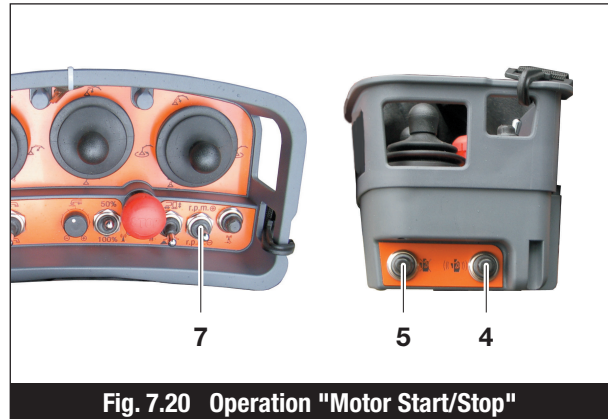
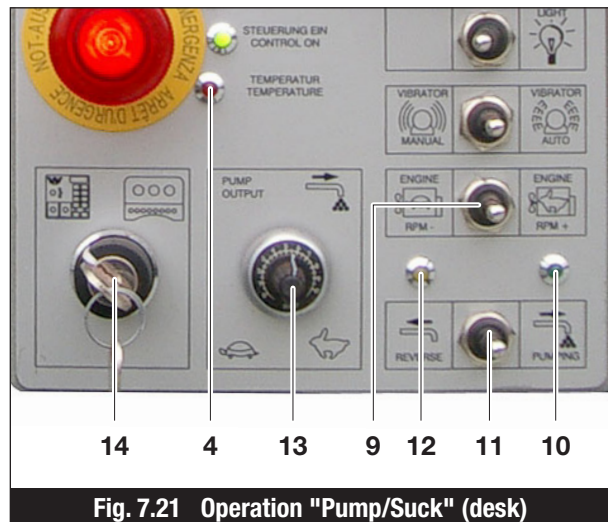
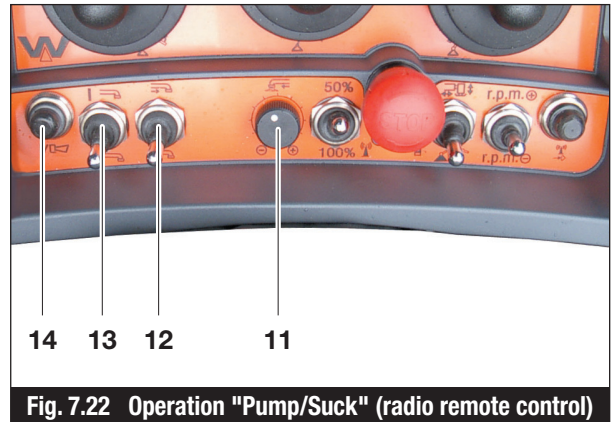

Fig. 7.20 Operation "Motor Start/Stop"
Fig. 7.21 Operation "Pump/Suck" (desk)
Fig. 7.22 Operation “Pump/Suck” (radio remote control)
The vehicle engine can be started from the remote control pendant using the push button (Item 4, Fig. 7.20). This can only be done if the key switch (Item 14, Fig. 7.6) on the control panel desk is set to "Remote Control".
Pressing the push button (Item 5, Fig. 7.20) stops the vehicle engine, and inhibits its restart for approx. 10 sec.
Pressing the rocker switch (Item 7, Fig. 7.20 or Item 9, Fig. 7.21) brings the vehicle engine from idling to full speed within 10 sec.
The operating mode selection switch (Item 14, Fig. 7.21) must be set to "Desk". The rocker switch (Item 11, Fig. 7.21) selects "Pump" or "Suck". For confirmation one of the two indicator lamps (Item 10 or 12, Fig. 7.21) will light.
The stroke rate depends on the setting of the stroke rate potentiometer (Item 13, Fig. 7.21) and the engine speed.
If the hydraulic oil temperature exceeds 80 °C, the pump function is stopped and the indicator lamp (Item 4, Fig. 7.21) on the control panel desk will light. Sucking the concrete back remains available. The hydraulic system must be cooled down as quickly as possible by appropriate means (see section 7.6.4).
The rocker switch (Item 12, Fig. 7.21) on the remote control pendant is pre-set to “Pump” or “Suck”. Select “Pump” or “Suck” using the rocker switch (Item 13, Fig. 7.21).
The stroke rate depends on the setting of the stroke rate potentiometer (Item 11, Fig. 7.22) and the engine speed.
Opening the safety grill or pressing an Emergency Stop button (whilst the “Pump/Suck” switch is activated), will deactivate the “Pump/Suck” function, which must then be restarted by switching the rocker switch (Item 13, Fig. 7.22) off and on again.
- Set the key switch (Item 14, Fig. 7.21) to position “Desk” or “Remote Control”
- Switch on the “Pump/Suck” function using rocker switch (Item 11, Fig. 7.6) or rocker switch (Item 13, Fig. 7.22)
- Set the key switch (Item 14, Fig. 7.21) to position “Desk” or “Remote control”
- Switch on the “Pump/Suck” function using rocker switch (Item 11, Fig. 7.21) or rocker switch (Item 13, Fig. 7.22)